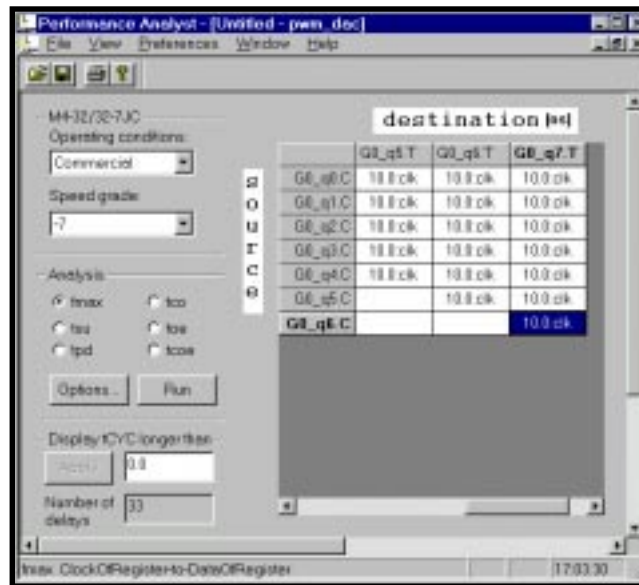

Figure 6-17. Performance Analyst Calculating the Delay Paths
1. In the Analysis field of the Performance Analyst, click **Run**. The Performance Analyst calculates the delay paths according to the options you have chosen and displays them in the table (Figure 6-17).